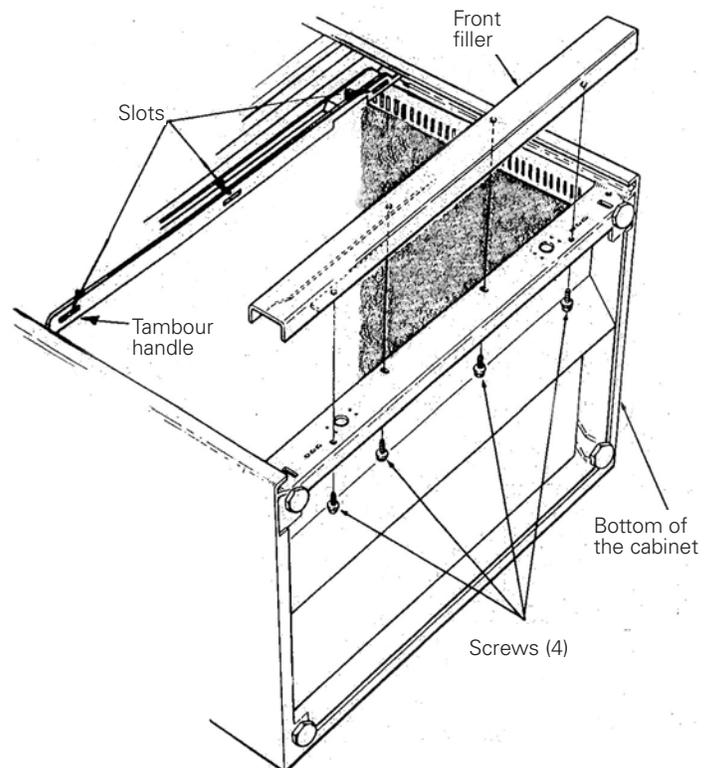

Figure 1. Front filler removal
3. Remove the front filler at the bottom of the cabinet by removing four screws with a ¼" socket wrench (see Figure 1). Discard the filler.